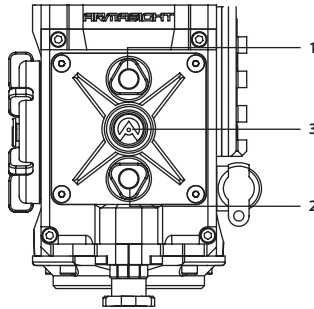

FIGURE 3-7. BUTTON CONTROL PANEL
The Helios button control panel is shown in Figure 3-7.
Table 3-2 contains the button functions and their descriptions. The ITEM NO. column indicates the number used to identify buttons in Figure 3-7.
To display the MAIN MENU, hold down button (3) on the control panel (Figure 3-7).